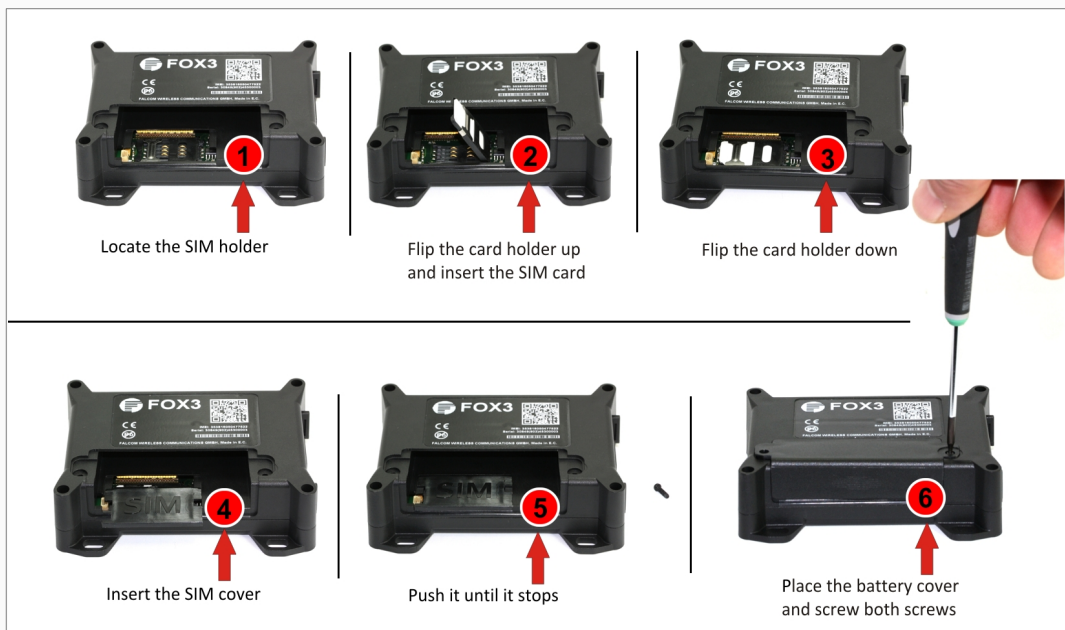

Figure 14: Steps for inserting the SIM card into FOX3-2G/3G/4G devices
- 1) Remove the power supply and any other connections from the device. Turn the FOX3-2G/3G/4G devices on their back side as shown in the figure 14 below.
- 2) Indicate the SIM card holder on the left of the battery try (1). To open it, push the metal slider in direction marked "OPEN".
- 3) Flip the card holder up (2).
- 4) Insert the SIM card (3) into the card holder in direction as shown in the figure below.
- 5) Flip the card-holder back (without force) (4), then hold it pressed and move the metal slider in direction marked "LOCK" until it stops.
- 6) Insert the SIM card cover in the direction as shown in picture below (5) and slide it until it stops.